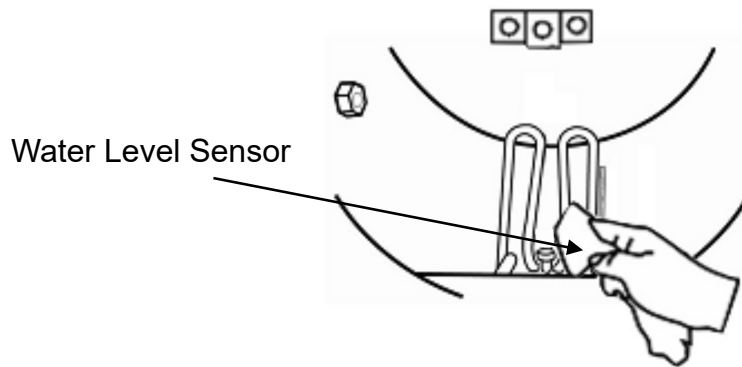

Figure 47
- Use the non-corrosive cleaner and stiff bristled brush or sponge to clean the water level sensor at the front of the chamber as Figure 47.